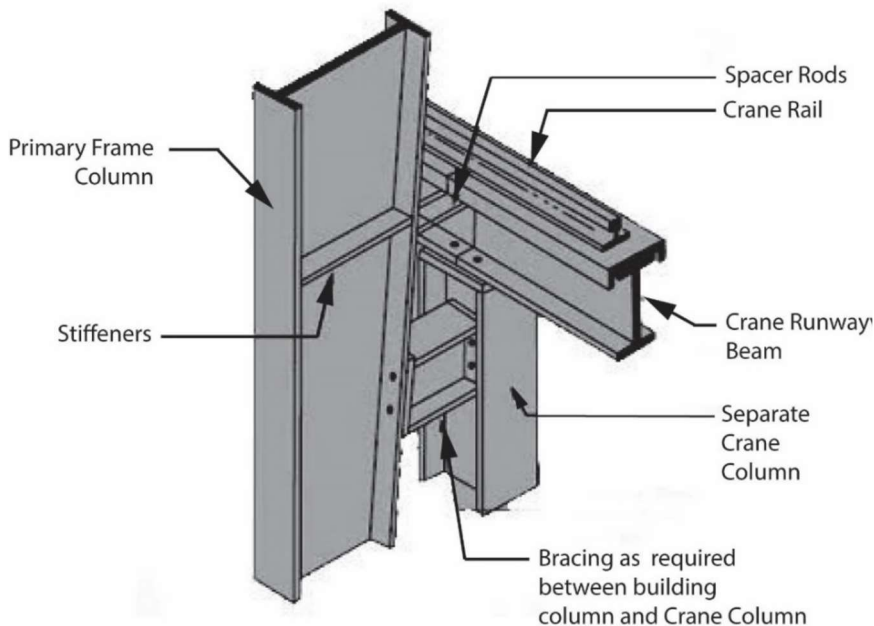

Figure 3
1. Adjust the rail laterally in relation to the girder. Although this solution is the most commonly used, it is bad engineering practice and actually is prohibited by the AISC specifications. The runway beam/girder is the wide-flange structural shape that supports the runway, while the rail (commonly American Society of Civil Engineers (ASCE) rail, similar to railroad rail) is the track upon which the end truck wheels traverse (see Figure 3). It is a common misconception that the runway beams have no particular installation tolerance and that only the rail is at issue. Further, this assumption seems to be confirmed by the lateral adjustment of the rail fasteners (for example, J-bolts/ hook bolts or patented clips). Actually, the tolerance of the beam installation is governed by the tolerance of the rail installation. This is because, according to AISC Design Guide 7, paragraph 19a, the centerline of the rail should be within $\pm \frac{3}{4}$ inch of the girder web thickness. This prevents top flange rollover and subsequent fillet cracking and possibly girder failure.